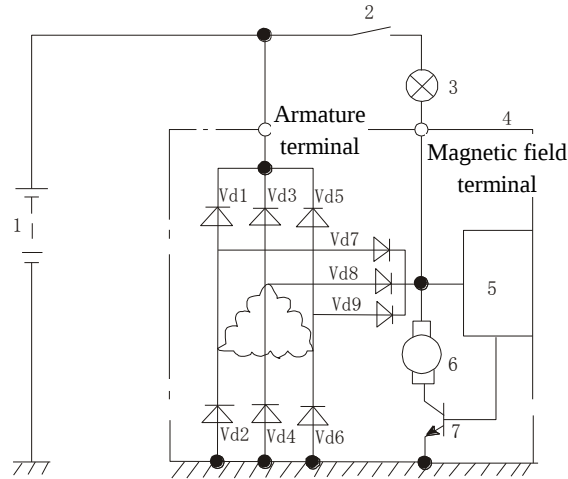

Fig.12-17 Principles of Generator Circuit
The principles of Lifan car generator circuit are shown in Fig.12-17.
(2)Voltage-stabilizing principles of regulator The input of regulator is induced by the voltage of generator, and the high-power switch triode of regulator is connected to the exciting circuit of generator in series (refer to Fig.12-17). Only if this triode is connected, the exciting circuit of generator can be connected. The voltage-adjusting process of regulator is as follows: